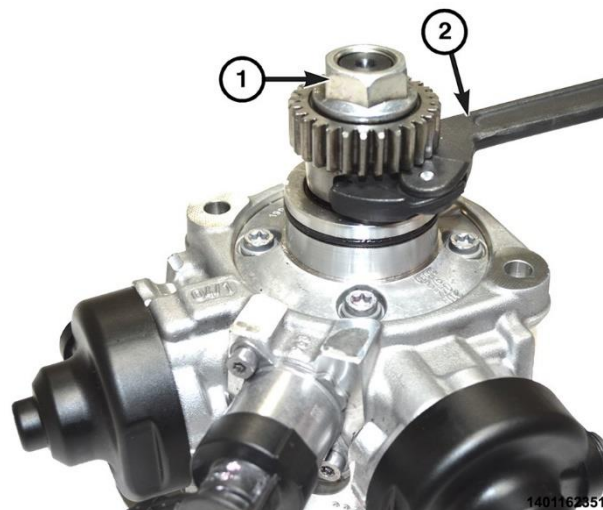

Figure 198 – Gear Nut Removal
43. Using a commercially available spanner wrench such as Blue Point APS351B, Snap-on APS351C or equivalent (2) and tighten the fuel injection pump gear nut (1) to 50 N·m (37 Ft. Lbs.) (Figure 198).